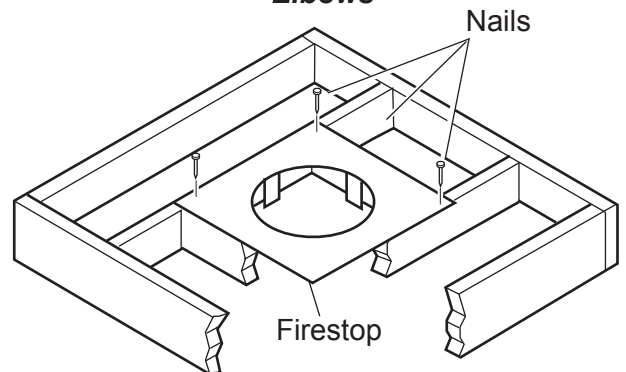
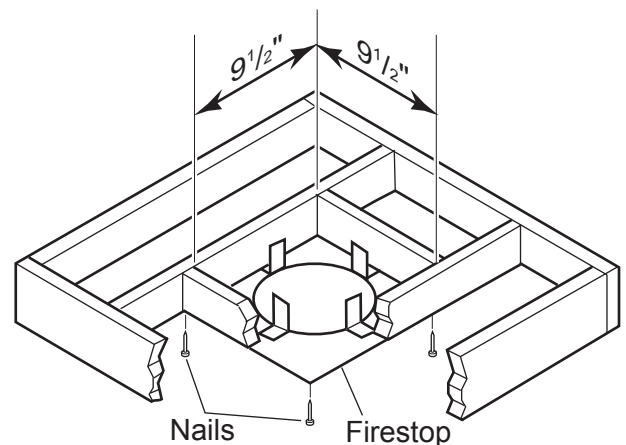

Figure 34 - If area above is a room, install firestop above framed hole as shown
Figure 35 - If area above is not a room, install firestop below framed hole as shown
1. Cut a 9 $\frac{1}{2}$ " (241mm) square hole in the ceiling using the locating hole as a center point. The opening should be framed to 9 $\frac{1}{2}$ "x9 $\frac{1}{2}$ " (241mm x 241mm) inside dimensions as shown in Figure 35 using framing lumber the same size as the ceiling joist. If the area above the ceiling is an insulated ceiling or a room, nail firestop from the top side. This prevents loose insulation from falling into the required clearance space. See Figure 34. Otherwise, install firestop below the framed hole. The firestop should be installed with no less than three nails per side. See Figure 35.